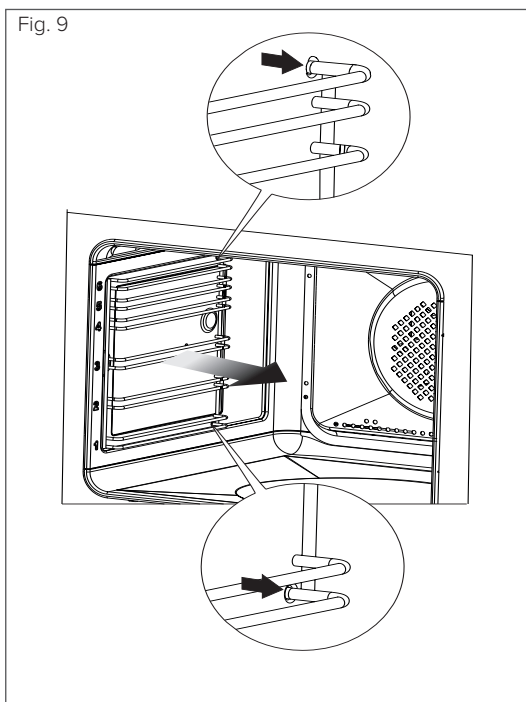

Fig. 10
- Tilt the shelf support outwards and you should then be able to remove the shelf support arms that secure it into the cavity walls at the back (Fig. 10)